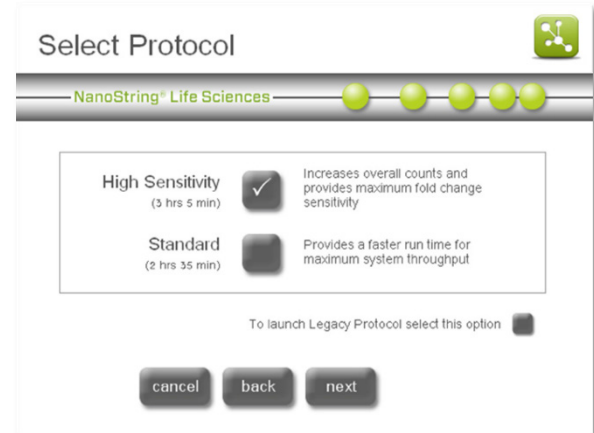

Figure 14: The 'Select Protocol' screen.
2. The 'Select Protocol' screen will appear (Figure 14). Select one of three protocols for processing samples: